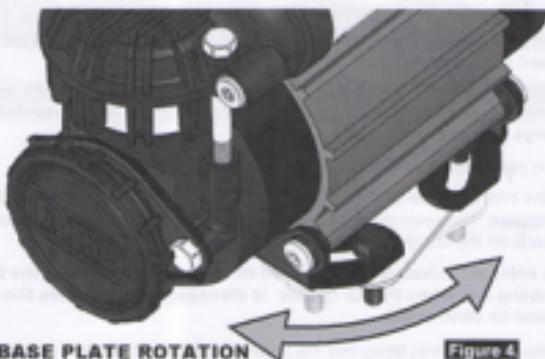

Figure 4.
- Rotate the compressor on the mounting bolts to the most desirable position (Ref Fig.4.).